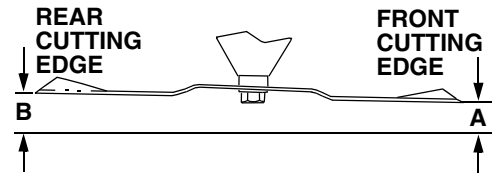

Figure 57
- Accessing the right hand blade through the discharge chute opening, measure the distance from the front cutting edge to the ground (measure A), and from the rear cutting edge to the ground (measure B). The front edge of the blade (measure A) should be between equal with its back edge (measure B) and lower by a maximum of 1/4 inch. See Figure 57.